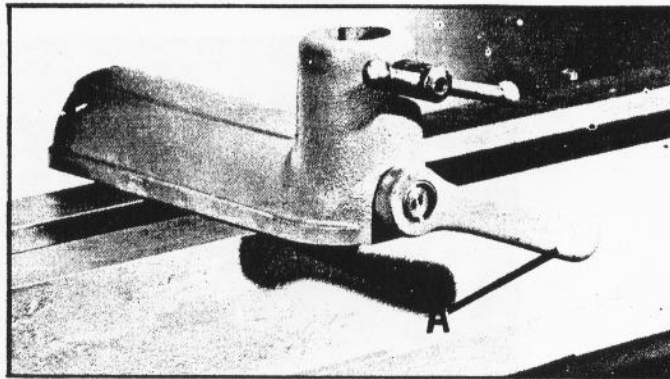

Fig. 5.
The tool rest base is equipped with a cam type clamping device which is actuated by turning the hand lever (A) Fig. 5, downward.